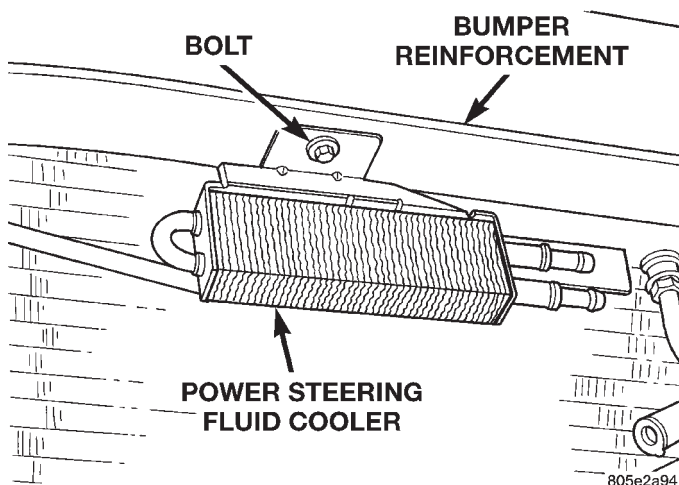

Fig. 38 Power Steering Fluid Cooler Attachment
(4) Remove bolt (Fig. 38) attaching the power steering fluid cooler to the bumper reinforcement (Fig. 38).
(1) Install the power steering fluid cooler on the bumper reinforcement as shown in (Fig. 38).
(2) Install bolt (Fig. 38) attaching the power steering fluid cooler to the bumper reinforcement. Tighten the attaching bolt to a torque of 7 N·m (60 in. lbs.)
(3) Install power steering fluid hoses on the power steering fluid cooler. Install the hose clamps on the power steering fluid hoses. **Be sure hose clamps are installed on hose past the upset bead on the power steering oil cooler.**
(4) Install the front fascia and grill on the vehicle. Refer to Front Bumper/Fascia in Group 13 of this service manual for the proper procedure.
(5) Lower the vehicle to a point where front tires are just off the ground.
(6) Start the engine and let run for a few seconds. Then turn the engine off.
(7) Add fluid if necessary. Repeat the above procedure until the fluid level remains constant after running the engine.
(8) Start the engine. Slowly turn the steering wheel right and left, lightly contacting the wheel stops.
(9) Add power steering fluid if necessary.
(10) Stop the engine. Check the fluid level and refill as required.
(11) If the fluid is extremely foamy, allow the vehicle to stand a few minutes and repeat the above procedure.